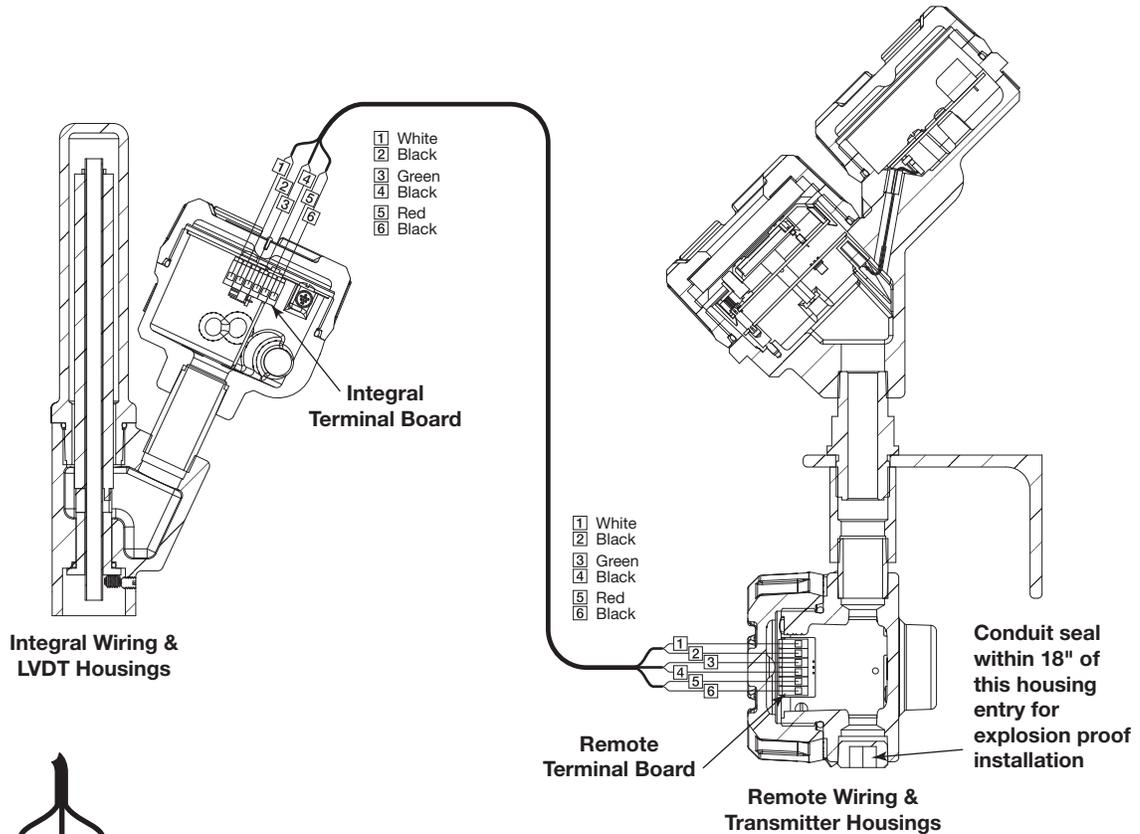

Figure 11
Wiring between the power supply and the E3 MODULELEVEL transmitter should be made using minimum of 18 AWG shielded twisted pair instrument cable. Wiring must be suitable for temperatures up to at least +85 °C. Within the transmitter enclosure, connections are made to the terminal strip and the ground connections. When installing a remote mount E3 transmitter, refer to Figures 11 & 12 on page 14 for wiring connections.
3. Connect one end of the six conductor cable (P/N 037-3226-xxx or 037-3227-xxx) to the integral terminal block and the other end to the terminal block within the remote terminal board housing. Be sure to match the six discrete numbered wires with the numbers on each terminal block. See Figures 11 & 12 on page 14.
1. Install Explosion Proof conduit from the remote mounted E3 transmitter head to the integrally mounted terminal housing at the LVDT. An Explosion Proof conduit fitting (EY seal) is required within 18" of the remote mounted transmitter head wiring housing (see figure 11). Follow steps 2 through 7 of Remote Mount wiring procedure on page 12.